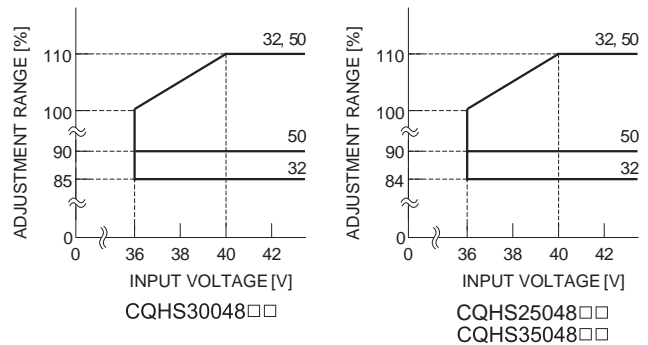

Fig. 4.7 Output voltage adjustment range
(4) Input voltage derating
- When the input voltage is 36 - 40VDC, the output voltage adjustment range becomes as shown in Fig. 4.7.